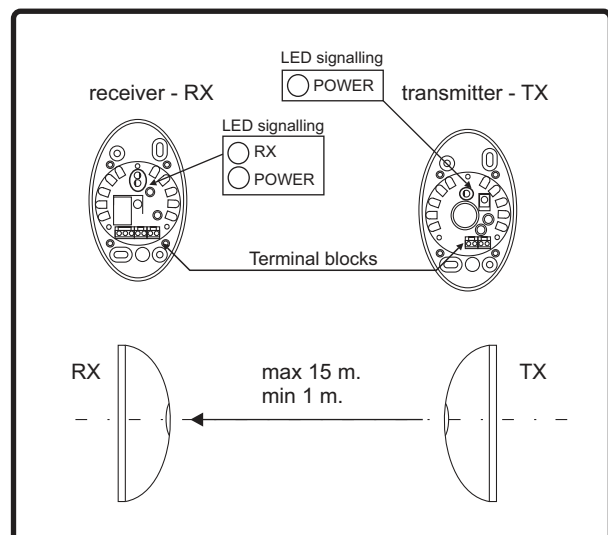

Fig. 1 Receiver - transmitter location
Photocell includes transmitter and receiver (fig.1). The transmitter emit a coded Infrared (IR) signal, invisible to the naked eye. Obstacle appearance (e.g. car) on photocell working area produces a detection signal on receiver output. Receiver has NC and NO type output contacts. Photocell is destined to work in gate automation system as external element. Built-in signal lamps in both, receiver and transmitter, supplied with 24V, fulfill signal function in gate system.